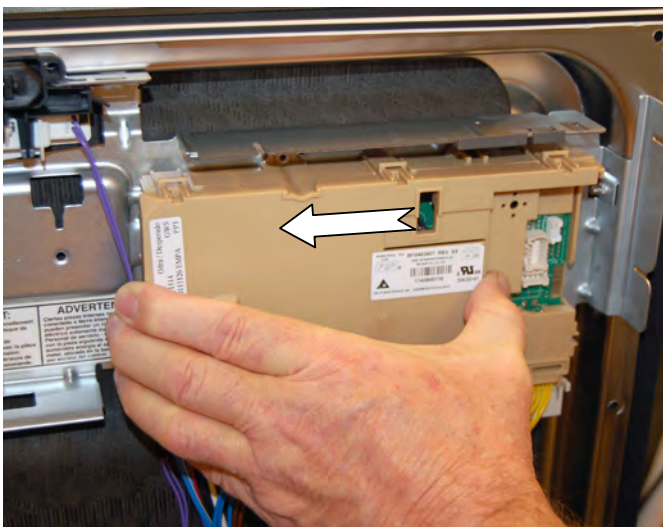

Figure 2
4. Slide the electronic control to the left to unhook the tabs on the back of the control from the slots in the door bracket, see figures 2 and 3.